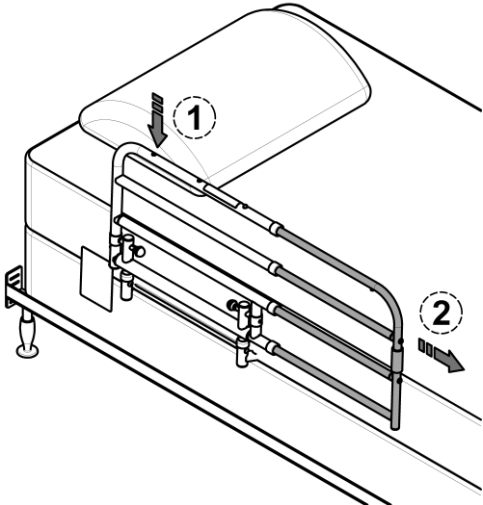

FIGURE 6A
- 6A.** To extend bed rail: push SPRING PIN down, then PULL rail toward foot of bed. *FIGURE 6A*.